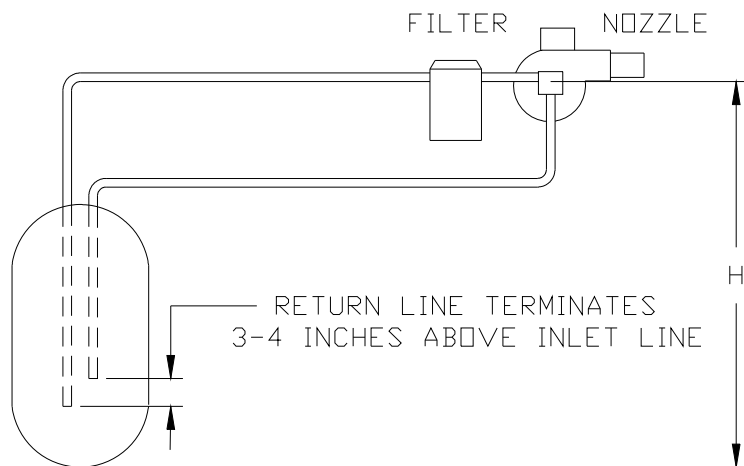

FIGURE 16: TWO-PIPE LIFT SYSTEM
- d) **TWO-PIPE LIFT SYSTEM** - used when a fuel oil storage tank is located below an oil burner fuel pump suction port. See Figure 16. The vertical distance from bottom of the tank to center line of the pump (Dimension 'H') must not exceed that shown in the pump manufacturer's instructions. Distance 'H' allowed is reduced by number of fittings, filters and valves installed in the line.